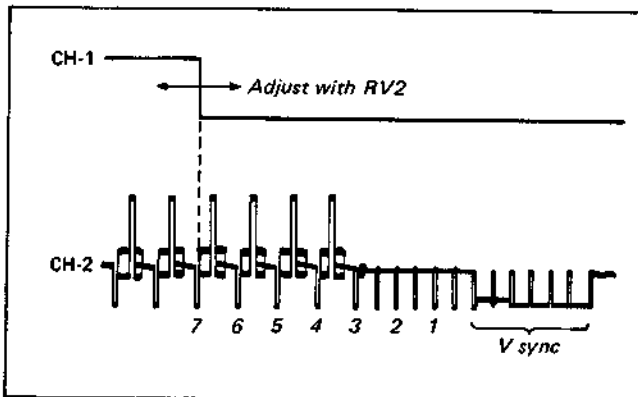

Fig. 4-3-4. RF switching position adjustment (1)
- (5) Adjust RV2 on the AS-3 board so that the phase difference between the falling section of the CH-1 waveform and the vertical sync signal of the CH-2 video signal are $7H \pm 2H$. (See Fig. 4-3-4.)